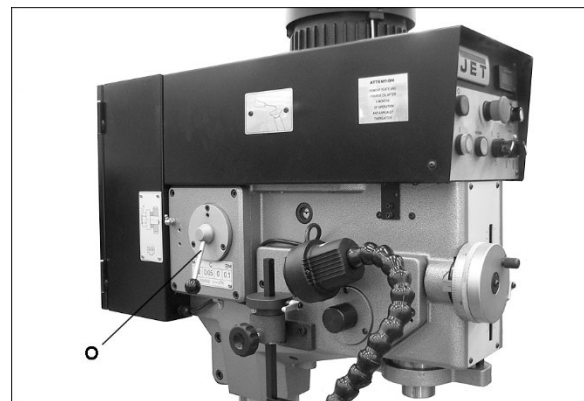

Figure 8-2: controls
1. Set switch (H) to drill mode.
4. Loosen handle (M, Figure 8-2) and slide indicator block to zero. Then move indicator block to match drilling depth on scale, and tighten handle.
NOTE: Feed rate lever (O, Figure 8-2) will only function in drill mode; powerfeed cannot be used in tapping mode.